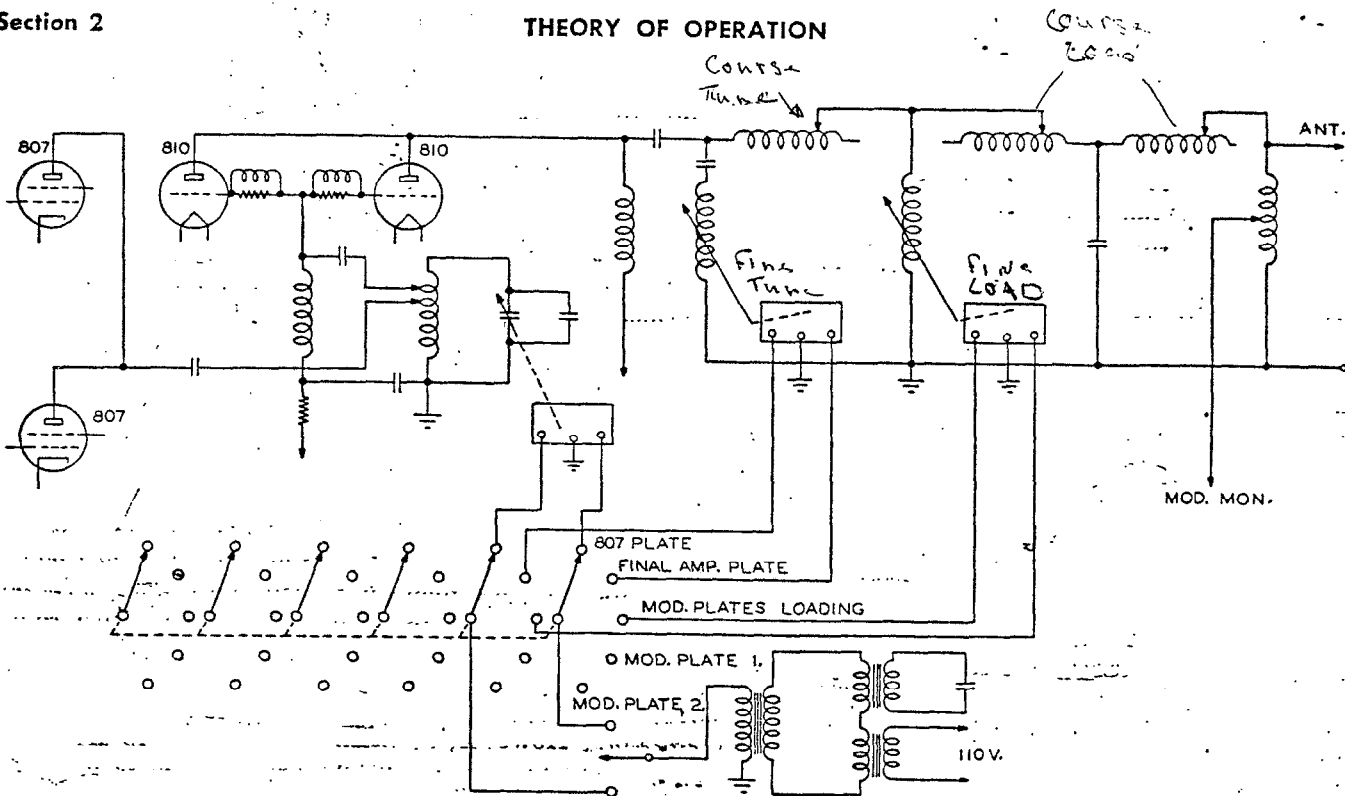

Figure 2-4. Motor Driven Circuits
b. TUNING MOTORS.—Three tuning motors are used to tune the 300G. The three motor driven circuits are (refer to figure 2-4) the 807 plate circuit, power amplifier plate tuning, and the antenna loading network. The power for application to the tuning motors is supplied by a 115 volt transformer, Item 25. Operation of the tuning motors is controlled by the tuning control switch, Item 17, and the tuning selector switch, Item 116.